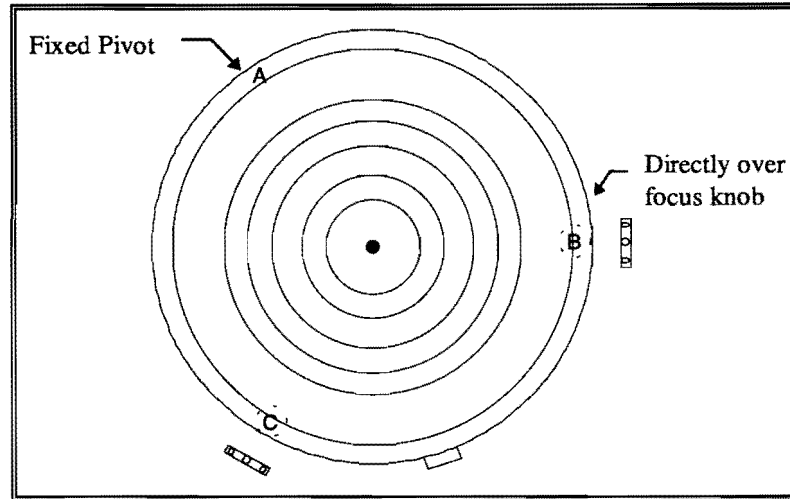

Figure 19.
2. Move the stage to Position A and focus the microscope using the focus knobs. This is the location of the stationary planarization screw. Refer to the Figure 19.